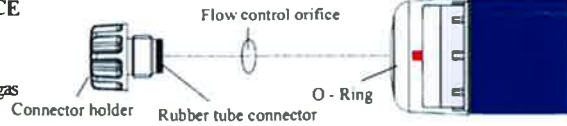

Fig. 1 How to attach
3. Put the flow control orifice and O-Ring into the inlet of the gas aspirating pump as shown in Fig. 1.